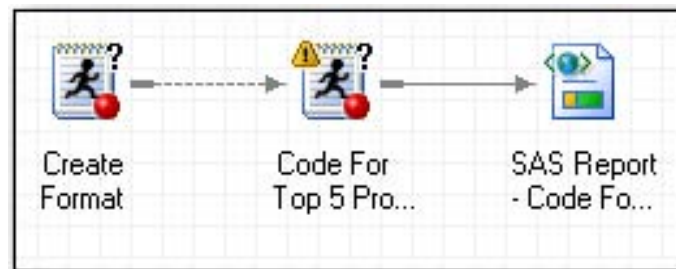

Figure 17. Process Flow Window
2. Click and drag the mouse over the remaining items in your project, and select **Delete**¹⁶ to remove them. Click **Yes** to confirm, leaving the items shown in Figure 17.